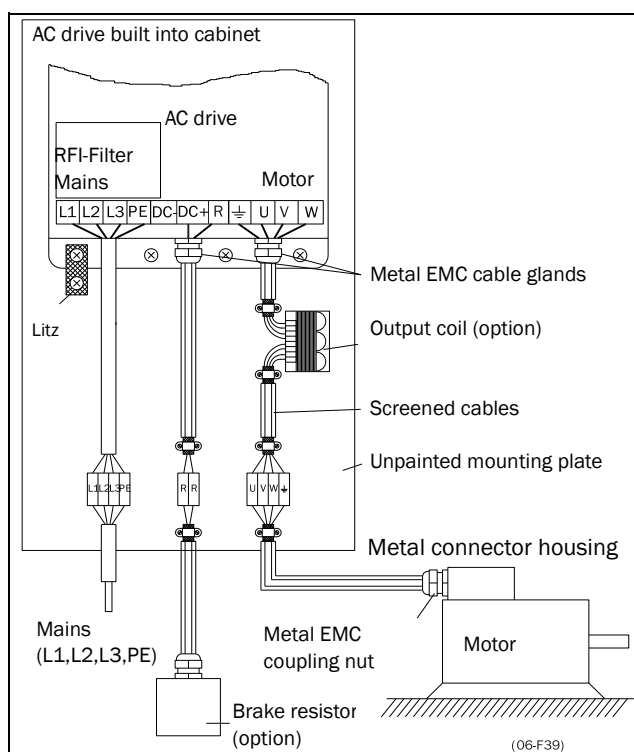

Fig. 33 AC drive in a cabinet on a mounting plate
- The litz ground connection see fig. 33, is only necessary if the mounting plate is painted. All the AC drives have an unpainted back side and are therefore suitable for mounting on an unpainted mounting plate.
- The litz ground connection, see fig. 33, is only necessary if the mounting plate is painted. All the AC drives have an unpainted back side and are therefore suitable for mounting on an unpainted mounting plate.
If the motor cables are to be interrupted by maintenance switches, output coils, etc., it is necessary that the screening is continued by using metal housing, metal mounting plates, etc. as shown in the Fig. 33.
- If the AC drive is mounted in a standard cabinet, the internal wiring must comply with the EMC standard. Fig. 33 shows an example of a AC drive built into a cabinet.